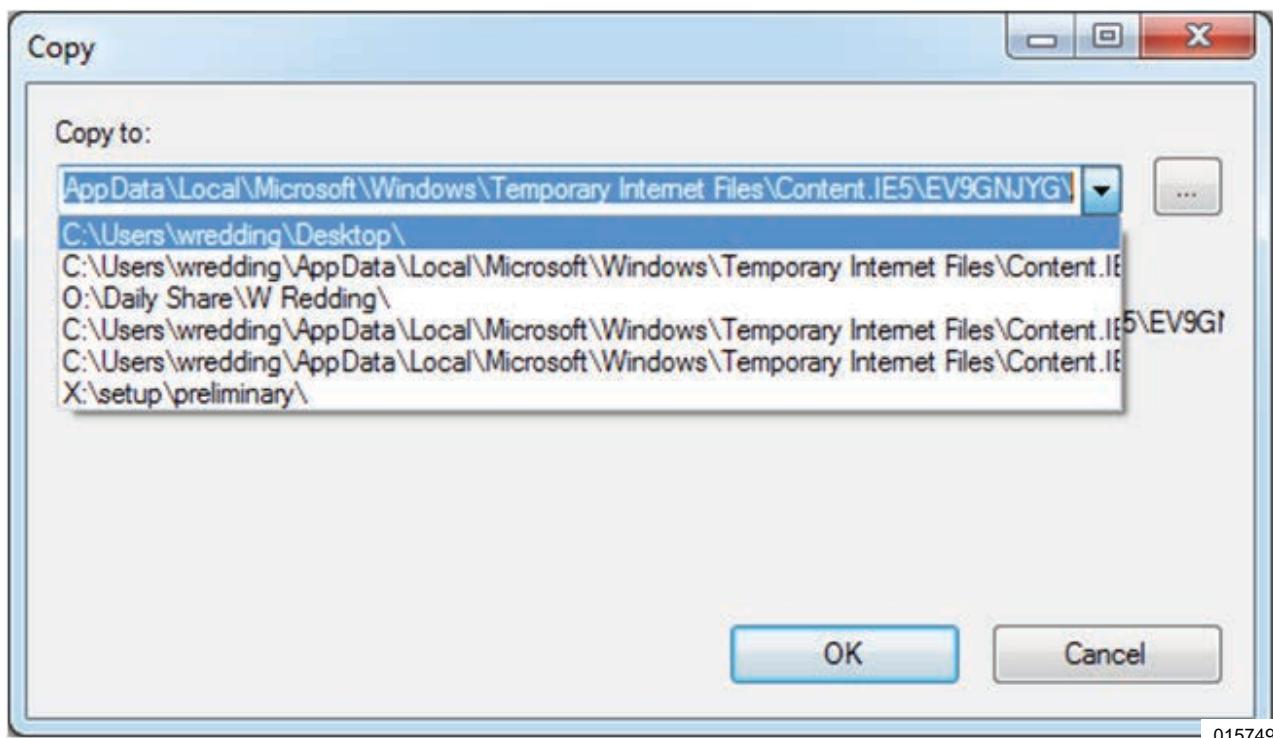

Figure A-8. Copy to Desktop
11. See **Figure A-8**. Copy to “Desktop” and click “OK”. A folder with the matching name will be on your desktop.